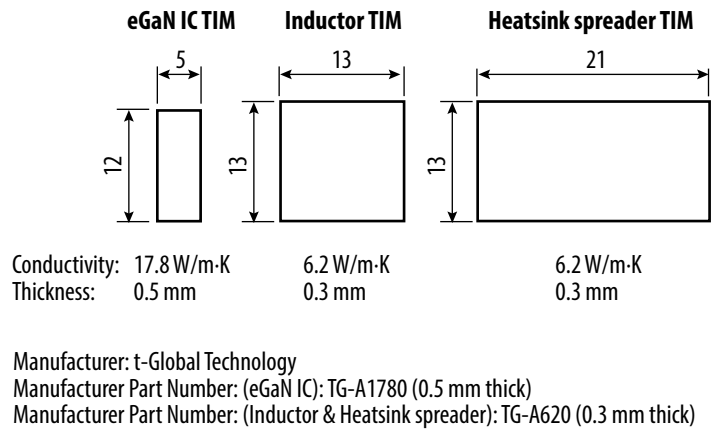

Figure 12: Details of the TIM's used on the EPC9177 evaluation board.
- A thermal interface for the eGaN IC, see figure 12
- A thermal interface for the Inductor, see figure 12
- A thermal interface for the heat-spreader, see figure 12